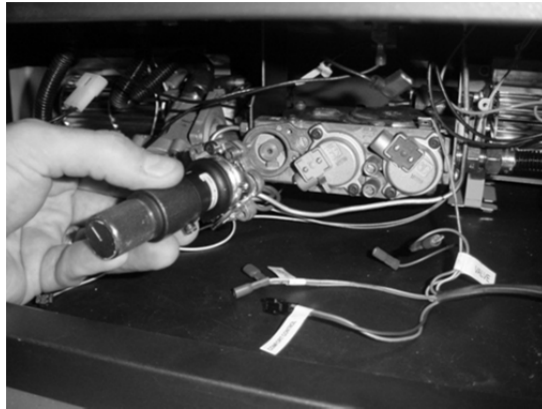

Figure 13
- 9 Use the included torx wrench to remove the stock regulator (see Figure 13). These items may be discarded.